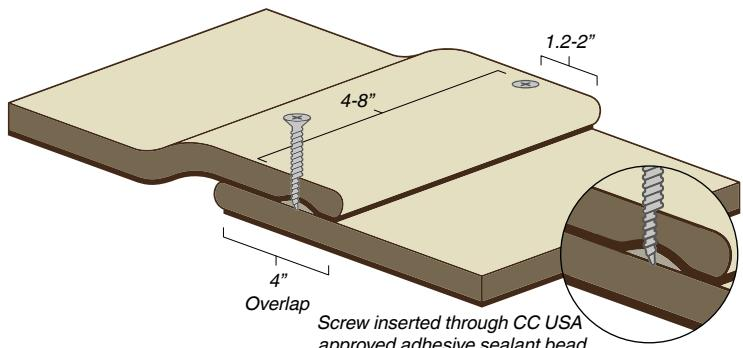

Figure 5.5 Screwed and sealed overlap joint
4. Installation of Screws: Once hydrated and sealant has been applied, fold back the top CC layer to ensure both layers are in contact again and the adhesive sealant is compressed. Once hydrated CC has a 1-2 hour working time in ambient temperatures of 50-72°F (reduced in warmer climates) and screws must be applied before setting begins so the concrete within CC will then set around the thread of the screws. The screws should be applied at 8" spacing (4" for warmer climates) and 1.2-2" from the edge of the CC through the sealant bead where possible to minimize leakage, see Figures 5.5 and 5.6.